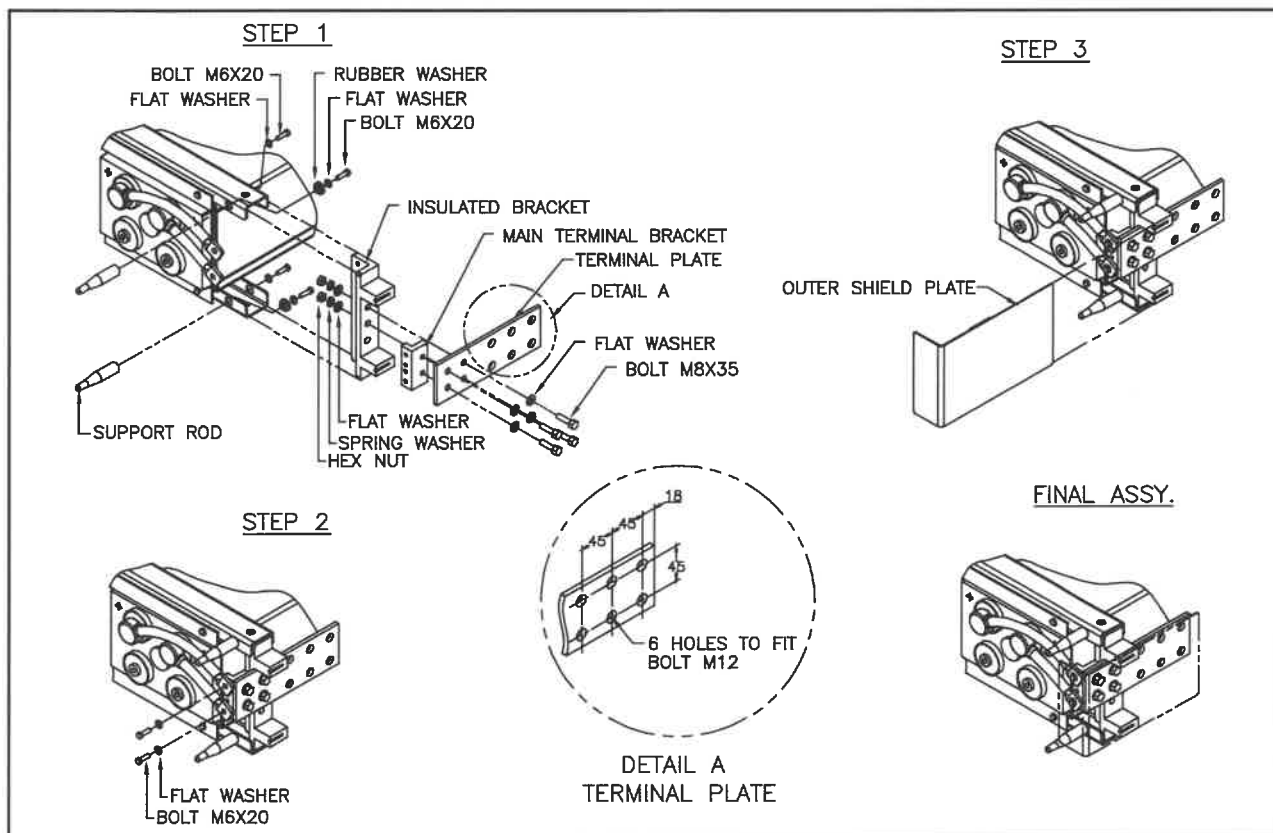

Figure 6: Main terminal assembly detail
- c) fit the four support rods (see illustration Fig 6) to each of the module frames.